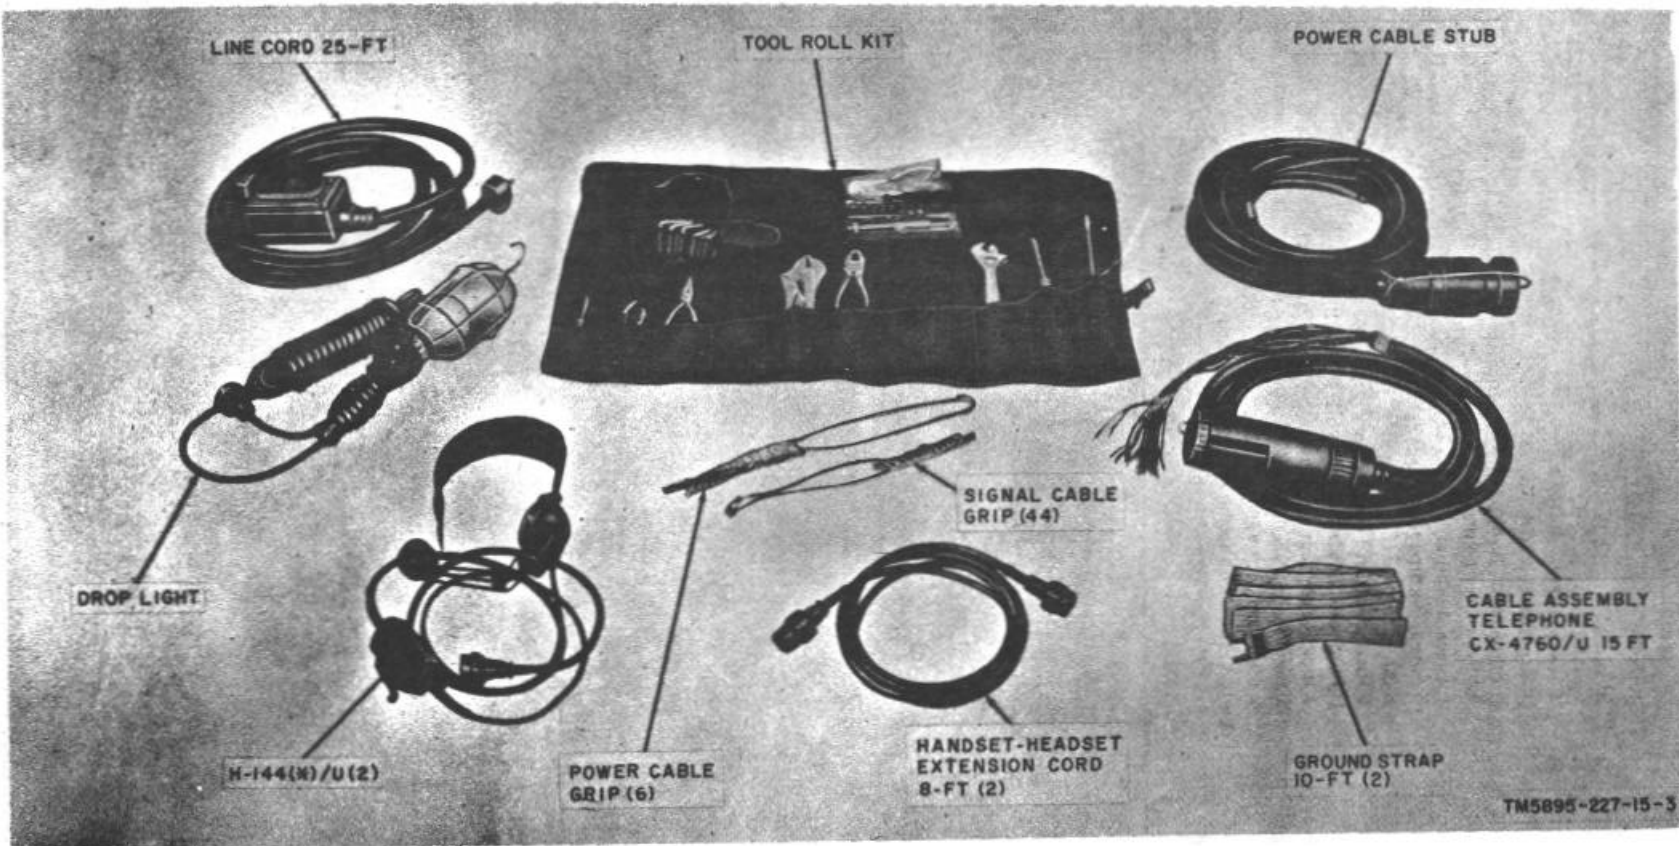
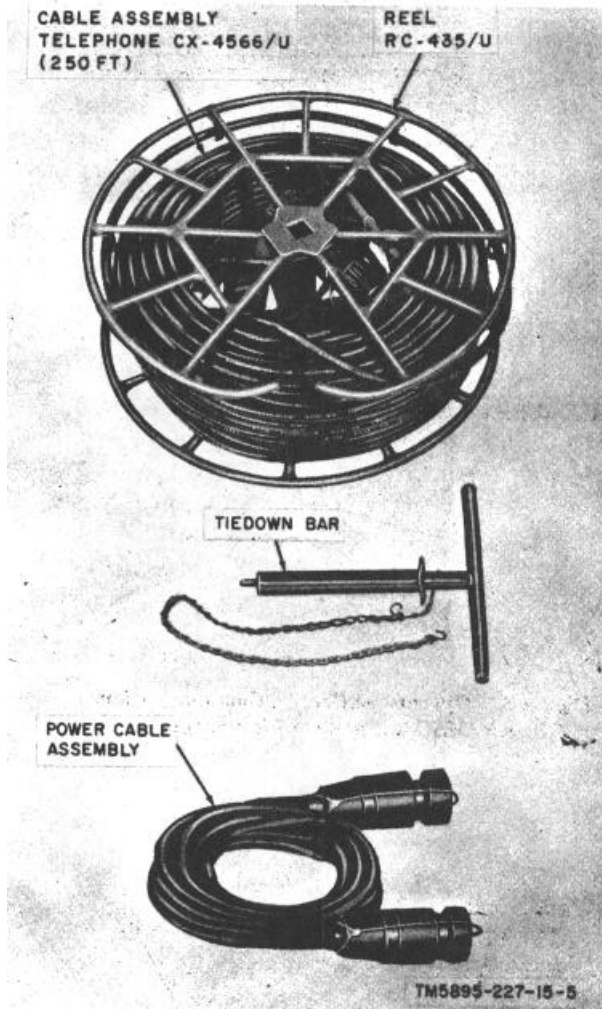

Figure 2. Operations Center, Communications AN/MSC-25, tools and accessories.
Figure 3. Operations Center, Communications AN/MSC-25, cable assemblies..
- (1) *Power cable assembly* (fig. 3). The power cable assembly is secured on the rear door (fig. 17). It is a 100-foot, three-conductor cable, with a watertight power connector on each end. It is used to connect the AN/MSC-25 to a power source (para. 22).
- (2) *Power cable stub* (fig. 2). The power cable stub is secured on the rear door (fig. 17). It is a 15-foot, three-conductor cable with a watertight power receptacle on one end and red, white, and black prepared leads on the other end. It is used to connect the AN/MSC-25 to a power source (para. 22).
- (5) *Handset-headset extension cord*. Two 8-foot handset-headset extension cords (fig. 2) are stored in storage cabinet No. 1. The extension cords are used to connect the H-144(*)/U's to TA-213 /PT's (para. 13) to allow freedom of movement at the display boards while operating a telephone.
- (6) *SB-22/PT cable stub*. The SB-22/PT cable stub is 3 feet long and is equipped with a 26-pin connector on one end and prepared leads on the other. It is used to connect the SB-22/PT to its receptacle (para. 12).
- (7) *Cable Assembly, Telephone CX-4566 /G (250 ft.) (fig. 3).* The CX-4566/G consists of a 250-foot, 26-pair cable, equipped with a 26-pair connector on each end, and is wound on Reel RC-435/U. The CX-4566/G is secured to the floor of the front compartment (fig. 18).
- (8) *Cable Assembly, Telephone CX-4760 /U (15 ft.) (fig. 2).* The CX-4760/U (26-pair cable stub) is stored in a storage cabinet. It is 15 feet long and is equipped with a 26-pair connector on one end and prepared leads on the other end. It is used to adapt a 26-pair cable for connection to binding posts (para. 25b).
c. The tool roll kit (fig. 2) is required for installation and connection of components.